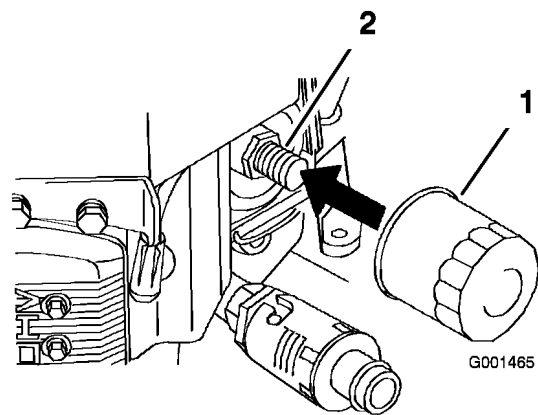

Figure 36
2. Remove the old filter (Figure 36).
3. Apply a thin coat of new oil to the rubber gasket on the replacement filter (Figure 36).
4. Install the replacement oil filter to the filter adapter, turn the oil filter clockwise until the rubber gasket contacts the filter adapter, then tighten the filter an additional 3/4 turn (Figure 36).